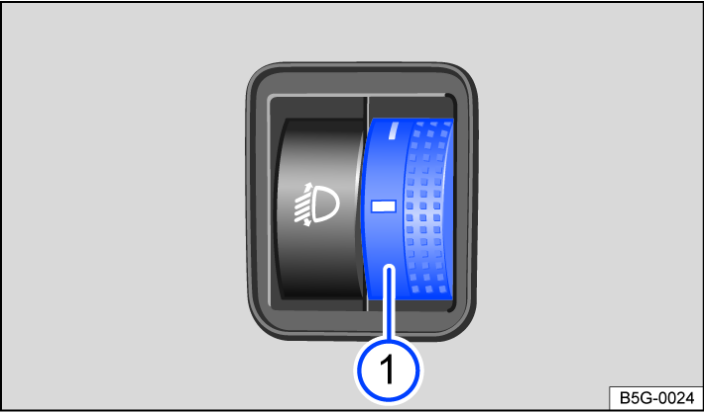
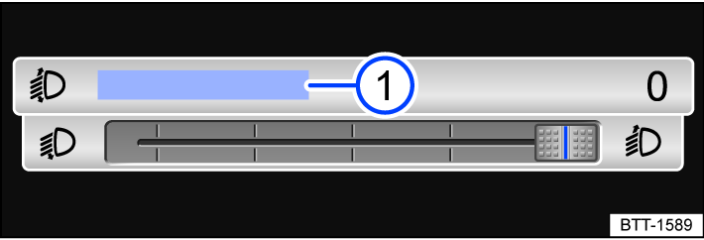

Fig. 1 Next to the steering wheel: control for headlight range control 1.
Fig. 2 In the Infotainment system: touch slider for headlight range control.
With some equipment levels, the headlight range can be adjusted either with the control → Fig. 1 or with the touch slider in the Infotainment system → Fig. 2.
- Tap the function button **Headlight range control** → Fig. 2 1.
- Turn the control → Fig. 1 to the required position (example vehicle load level).